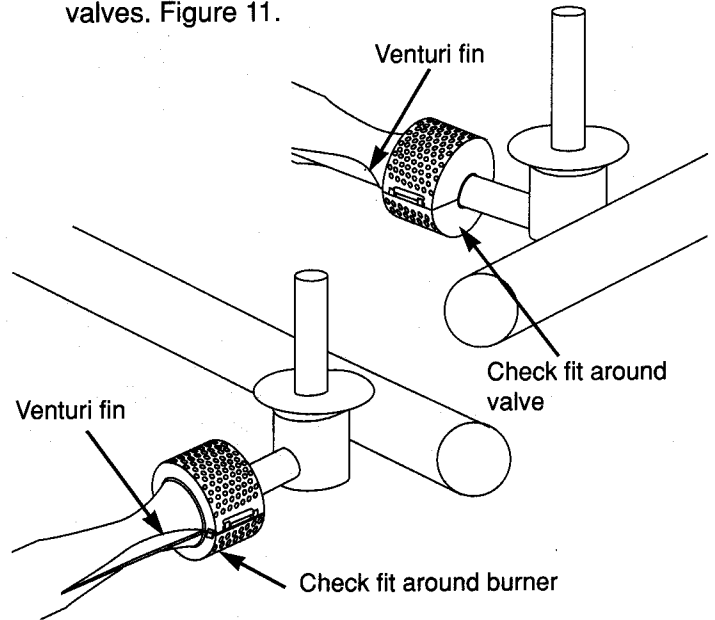

Figure 11
i) Reinstall the Spider Stopper Guards. Slightly rotate the Spider Stopper Guards so that the seams are in line with the Venturi fins. There should be no gaps in the seams or in the fit around the burners and valves. Figure 11.